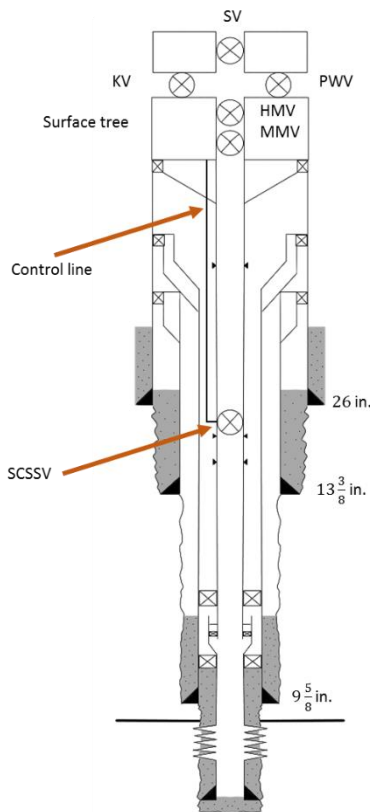

Figure 1 – A platform well completed with the vertical tree.
6. A platform well (Figure 1) has been drilled and completed with the vertical tree in 1985. The top of cement (TOC) in the B-annulus is below the permanent packer and the well suffers from sustained casing pressure in the A- and B-annulus. Caliper log shows big holes along the production tubing (shown with triangle on the well schematic). Operator decided to permanently plug and abandon the well. Through the operation, BOP has been necessitated to control the well pressure. Create a decision making flowchart for permanent P&A of reservoir zone only. Include the contingency plans. **(15p)**